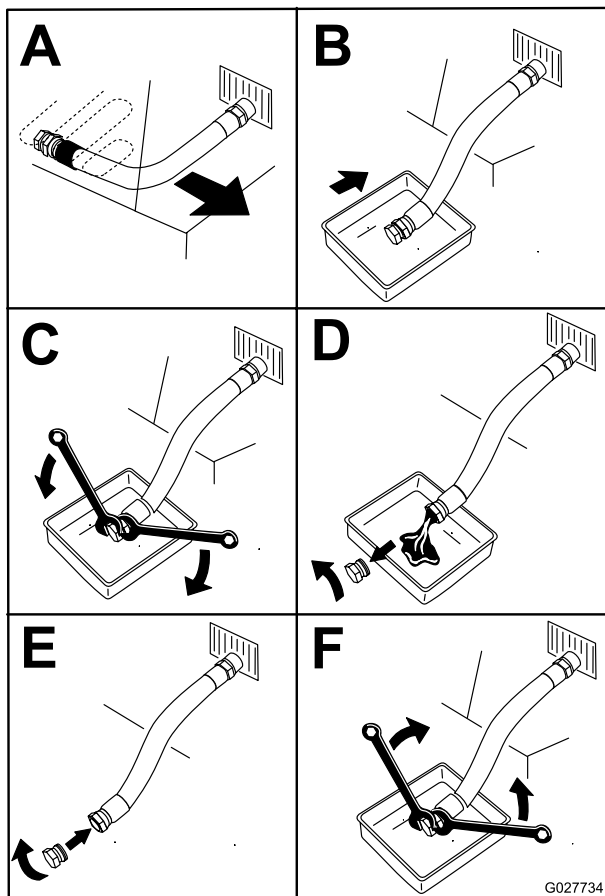

Figure 47
3. Stop the engine, remove the key, and wait for all moving parts to stop before leaving the operating position (Figure 47).